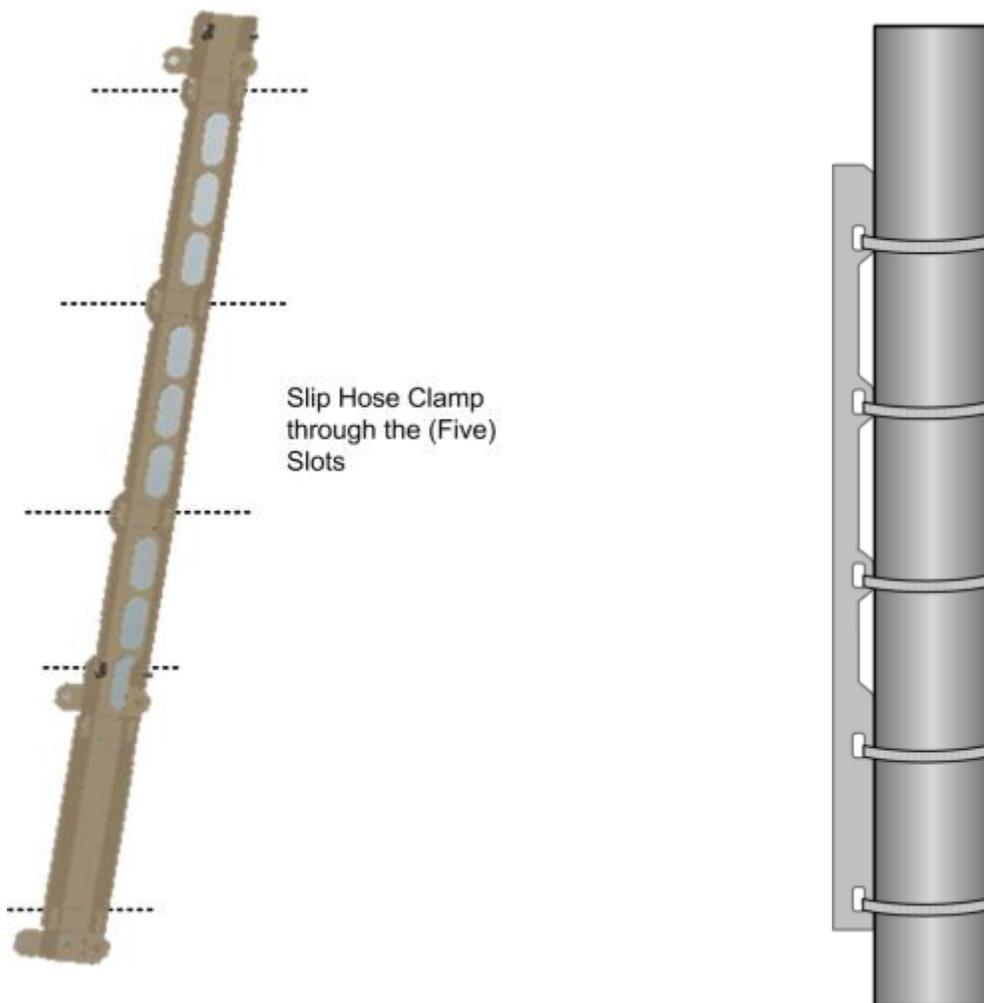

Figure 3-9. Bracket Slots for Hose Clamps (Left) and View of Bracket Mounted on Pole (Right)
2. Secure the mounting bracket by slipping the five hose clamps (provided) through the mounting bracket and tighten securely. Refer to Figure 3-9.